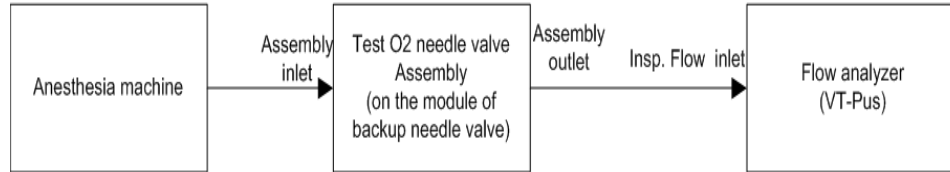

FIGURE 5-69
1. Disconnect the #137 tube from the O2 needle valve on the anesthesia machine and connect the tube to the inlet of the test needle valve assembly. Connect the outlet of the test needle valve with the flow analyzer as show below(FIGURE 5-69).